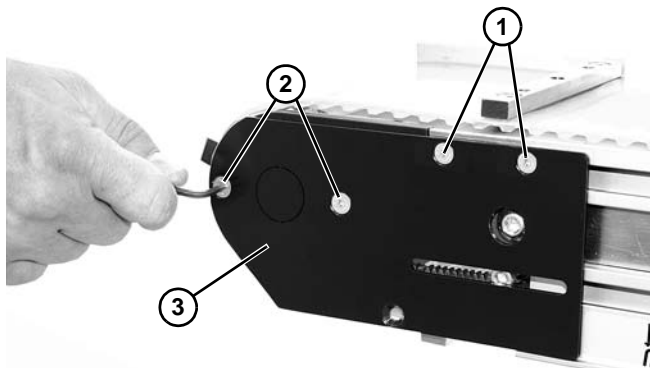

Figure 37
2. On one side of conveyor, remove two (2) flat head screws (Figure 37, item 1).
3. Remove flat head screws (Figure 37, item 2).
4. Remove outer headplate (Figure 37, item 3).